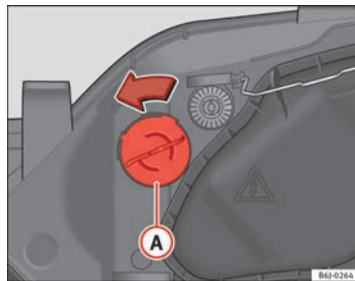

Fig. 165 Turn signal
- Rotate the bulb holder ⇒ fig. 165 Ⓐ to the left and pull.